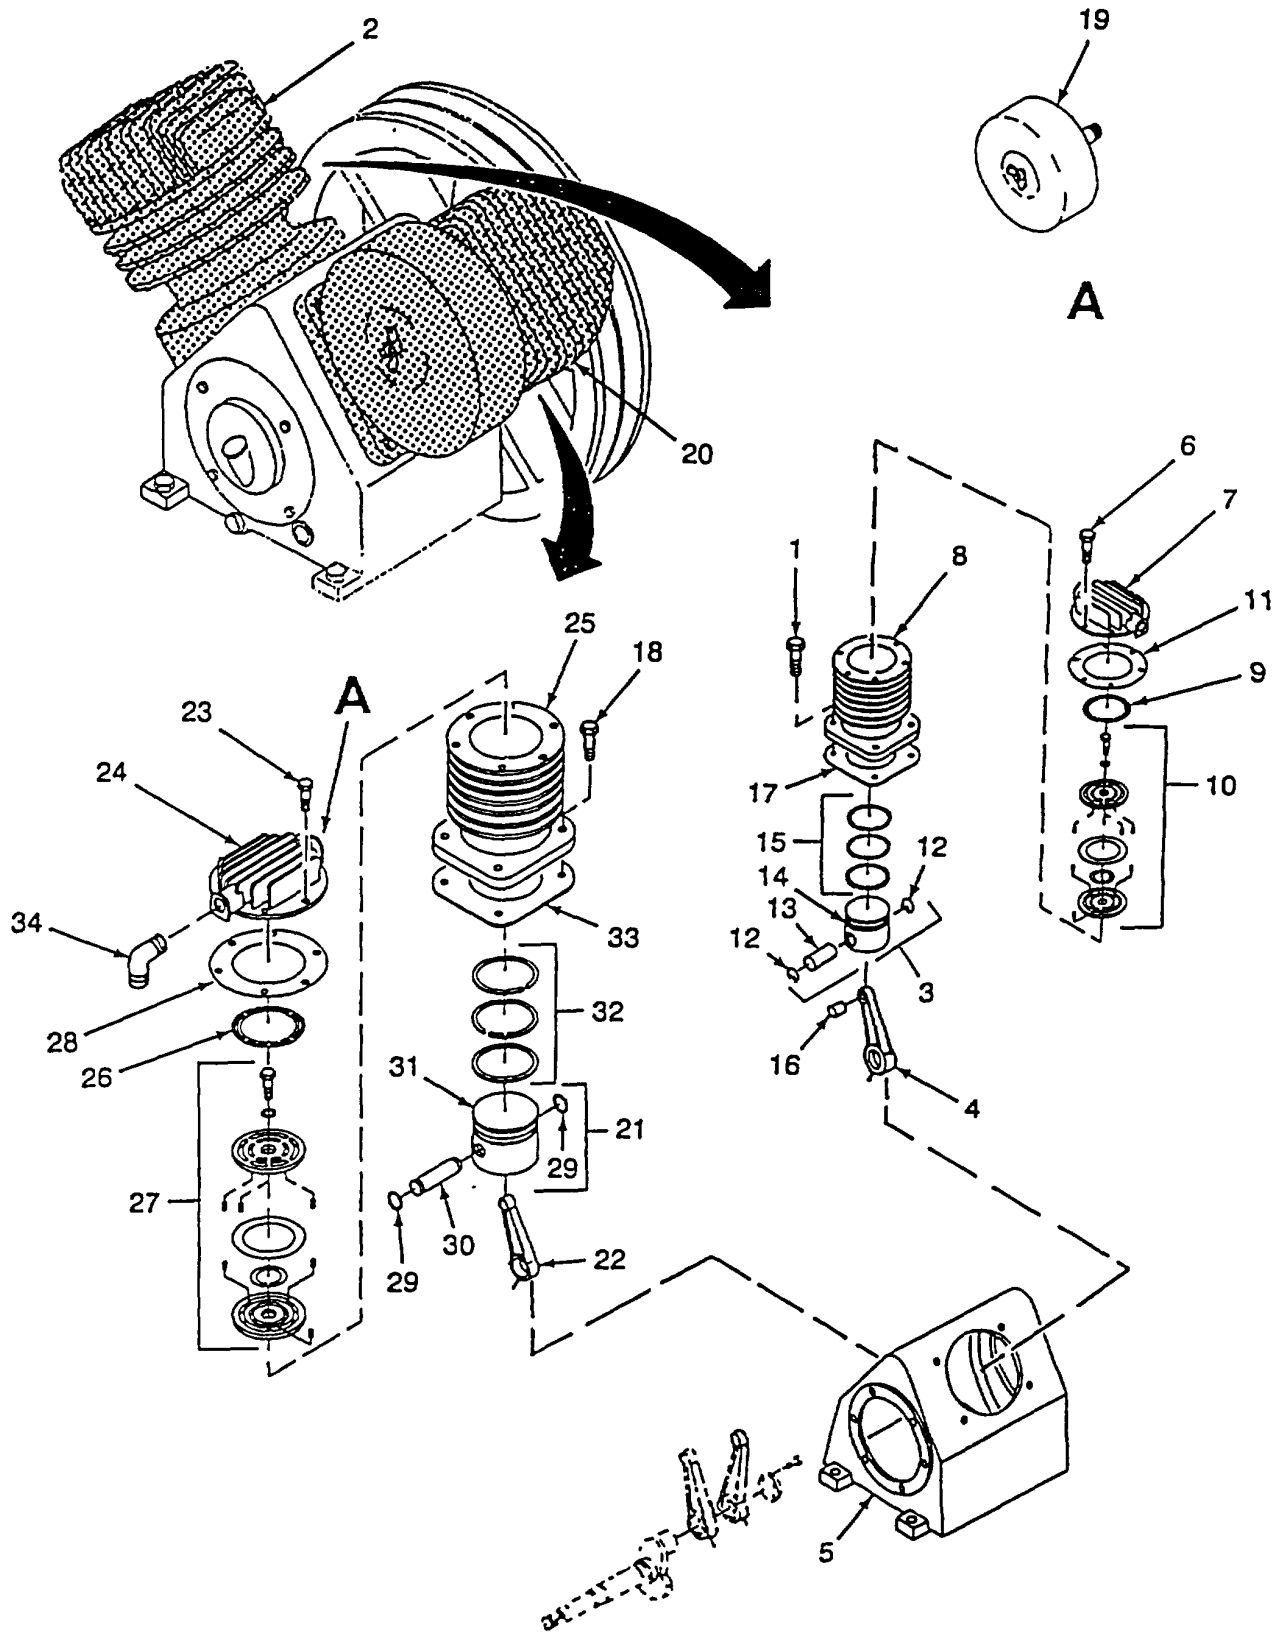

Figure 5-9. Pistons and Connecting Rods and Related Parts
- (18) Remove four bolts (1, Figure 5-9) from high pressure cylinder head assembly (2).
- (19) Remove the high pressure cylinder head assembly (2) with piston assembly (3) and high pressure connecting rod (4) in it from the crankcase (5).
- (20) Remove five bolts (6) from high pressure cylinder head (7) and remove high pressure cylinder head (7) from cylinder (8).
- (21) Remove head gasket (9) and valve gasket assembly (10) from cylinder (8) Discard head gasket (9) and valve gasket assembly (10).
- (22) Remove head gasket (11) from cylinder (8). Discard head gasket (11).
- (23) Remove two snap rings (12) and piston pin (13) from high pressure piston (14).
- (24) Remove piston rings (15) from high pressure piston (14).
- (25) Remove bushing (16) from high pressure connecting rod (4).
- (26) Remove high pressure connecting rod (4) from high pressure piston (14).
- (27) Remove lower gasket (17) from crankcase (5). Discard lower gasket (5).
- (28) Remove four bolts (18) from low pressure cylinder head assembly (20).
- (1) Reassemble the piston (31, Figure 5-9) and connecting rod (22) as follows. Lubricate each piston and connecting rod assembly with a light coat of engine oil.
- (a) Install piston pin (30) through piston (31) and connecting rod (22). Secure with snap rings (29).
- (b) Install piston rings (32) in piston (31).
- (2) Install the assembled piston assembly (21) and low pressure connecting rod (22) into the crankcase (5).
- (3) Slide the low pressure connecting rod (22) onto the crankshaft.
- (4) Align the holes in the lower gasket (33) with holes in the crankcase (5).
- (5) Align the holes in the cylinder (25) with lower gasket (33) and crankcase (5).
- (6) Install four bolts (18) through the flange on the cylinder (25), lower gasket (33) into the crankcase (5) Tighten.
- (7) Install new valve gasket assembly (27) into cylinder (25) Align the holes in head gasket (28) with holes in the cylinder (25).
- (8) Align low pressure cylinder head (24) holes with holes in head gasket (28) and cylinder (25).
- (9) Install six bolts (23) through low pressure cylinder head (24), head gasket (28) and cylinder (25). Tighten.
Run the air pump long enough to warm up Shut down the air pump and retorque cylinder head bolts (6 and 23, Figure 5-9) to 30 ft. lbs.